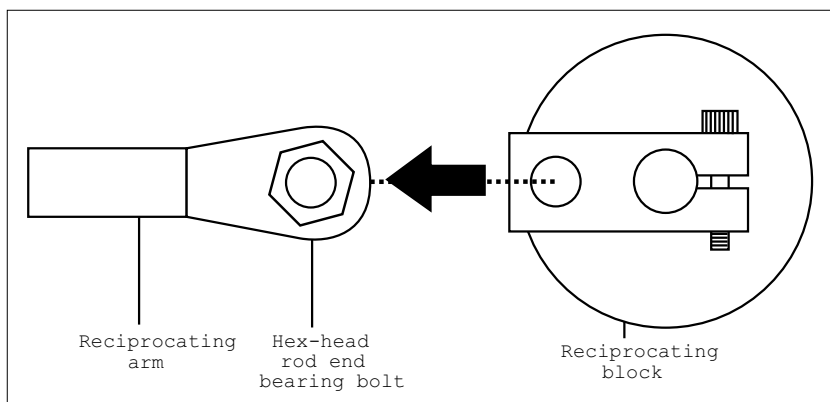

Figure 2-4. Disabling the Shuttle from Inside the Access Panel
2. Locate the reciprocating arm and reciprocating block directly beneath the underside of shuttle (Figure 2-4).